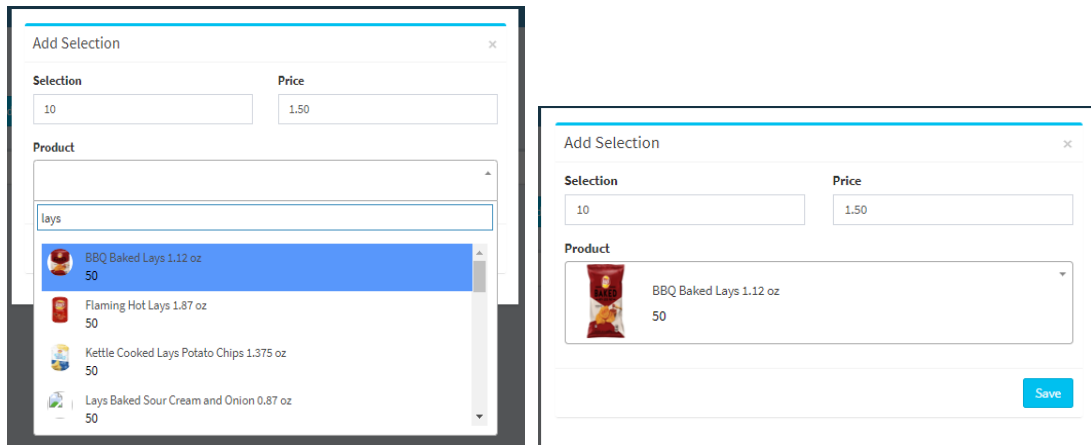

Figure 40
- Now click the Product field. You can type a product name in this search field. The search function will present matching products to your key word (*see figure 40*). Or you can scroll until you find the product you want to place in this selection.